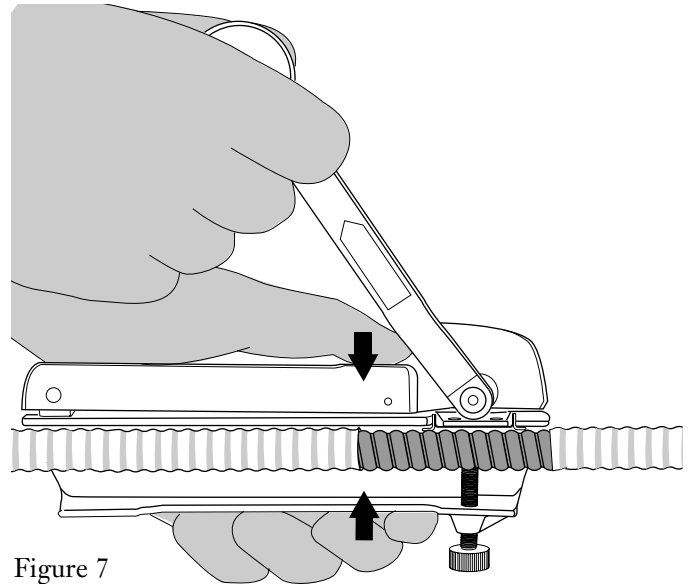

Figure 7
4.7 Holding the tool near the cutting head, squeeze the tool to bring the cutting blade against the armor, and rotate the crank handle (Figure 7). When the force required to rotate the crank handle suddenly decreases, the cut is complete.